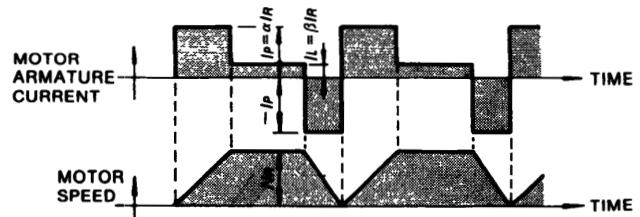

Fig. 4.5 Timing Chart of
- When the motor accelerates, runs at constant speed, and decelerates in a continuing cycle without being at standstill (Fig. 4.5).
The timing chart of the motor armature current and speed is as shown in Fig.4.5. The allowable frequency of operation "n" can be calculated as follows.